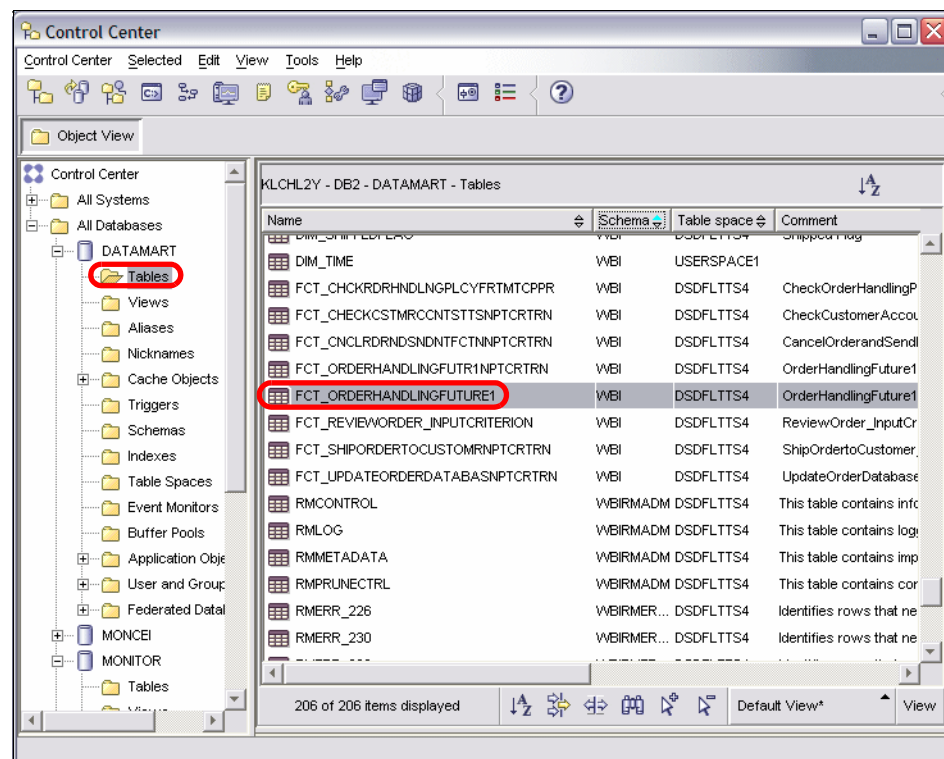

Figure 14-93 DB2 Control Center: Verify data replication
- ▶ Navigate to *All Databases* → *DATAMART* → *Tables* and select the table associated with the parent monitoring context (Figure 14-93):